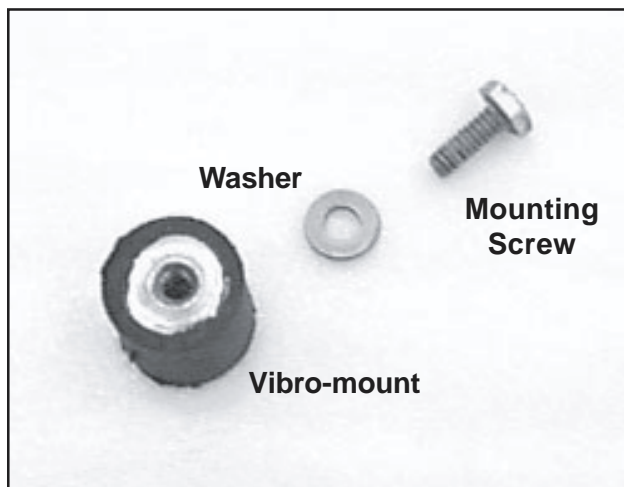

Figure 112. Vibro-mount Parts
1. Secure the Vibro-mount in place with the mounting screw and washer (Figure 112).